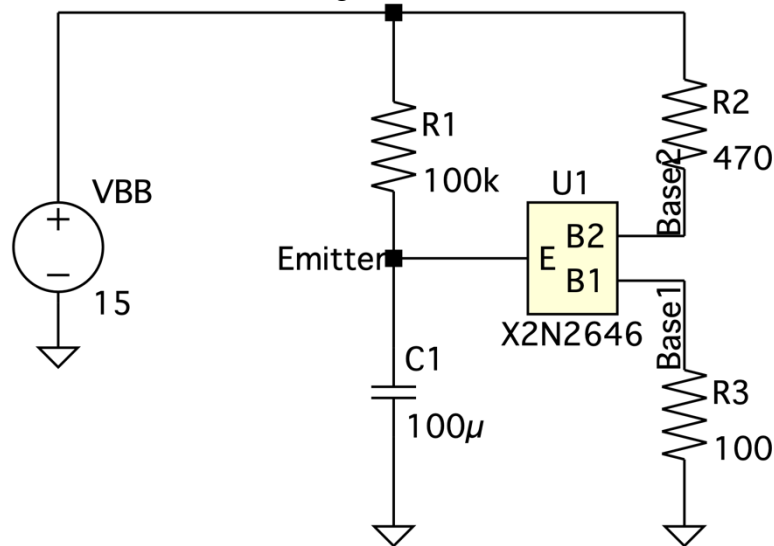

Fig. 3.9 UJT Relaxation Oscillator
1. Construct the circuit shown in Fig. 3.9.